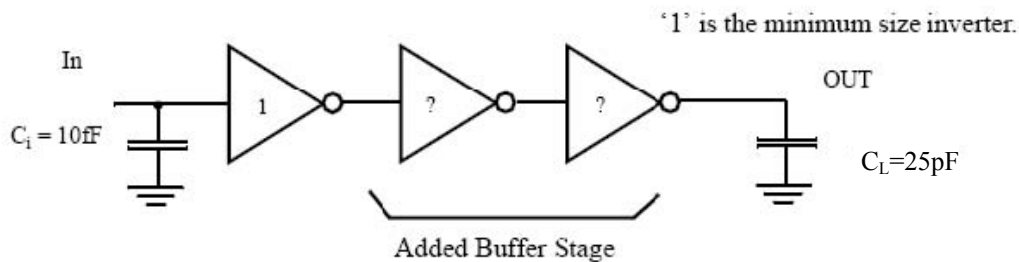

Figure 5.12 Buffer insertion for driving large loads.
a. In order to drive a large capacitance ($C_L = 25 \text{ pF}$) from a minimum size gate (with input capacitance $C_i = 10 \text{ fF}$), you decide to introduce a two-staged buffer as shown in Figure 5.12. Assume that the propagation delay of a minimum size inverter is 70 ps . Also assume that the input capacitance of a gate is proportional to its size. Determine the sizing of the two additional buffer stages that will minimize the propagation delay. Assume the junction capacitance to gate capacitance ratio $\gamma=1$.